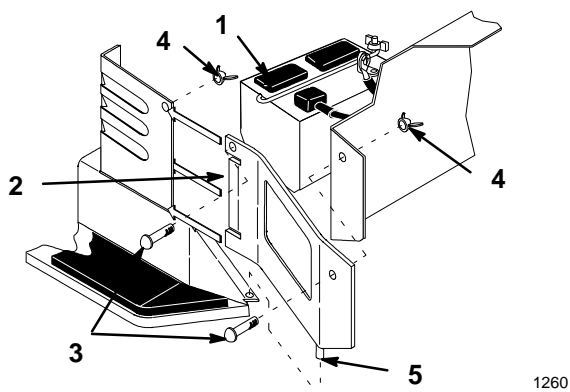

Figure 36
3. Remove side panels for clearance when removing battery (Fig. 36). Remove the wing nuts and screws and lift up to clear pin and slide panel tabs out from steering tower.
7. Install the battery into the chassis (Fig. 36).
11. Install side panels by sliding tabs into steering tower and inserting pin into flange of footrest. Secure with screws and wing nuts (Fig. 36).